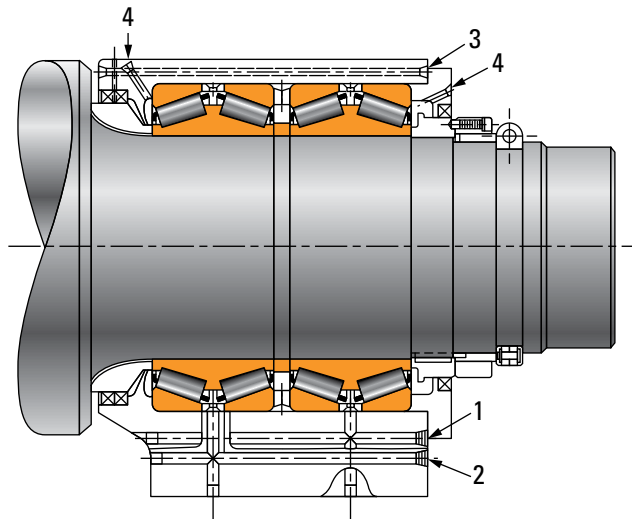

Fig. 148. Chock lubrication and venting layout for TQOW bearings in low-medium speed mills (section view).
Figs. 148 and 149 show the arrangement normally used with a centralized grease lubrication system. The lubricant is applied to the bearing through the ports (1 and 2). Grease is applied to the closure seals through port (3) for the sealing. Air-relief vents are provided near the top of the chock, through fittings (4).